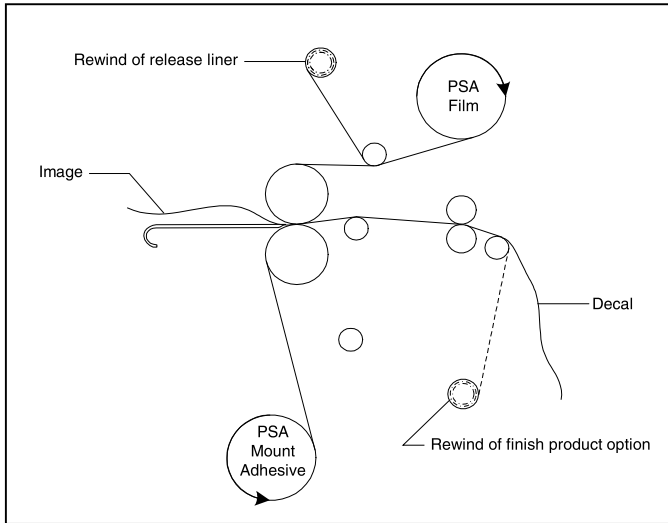

Fig. 40
TIPS FOR CREATING A DECAL (Figure 40)
1. Load the laminator as illustrated in Figure 40.